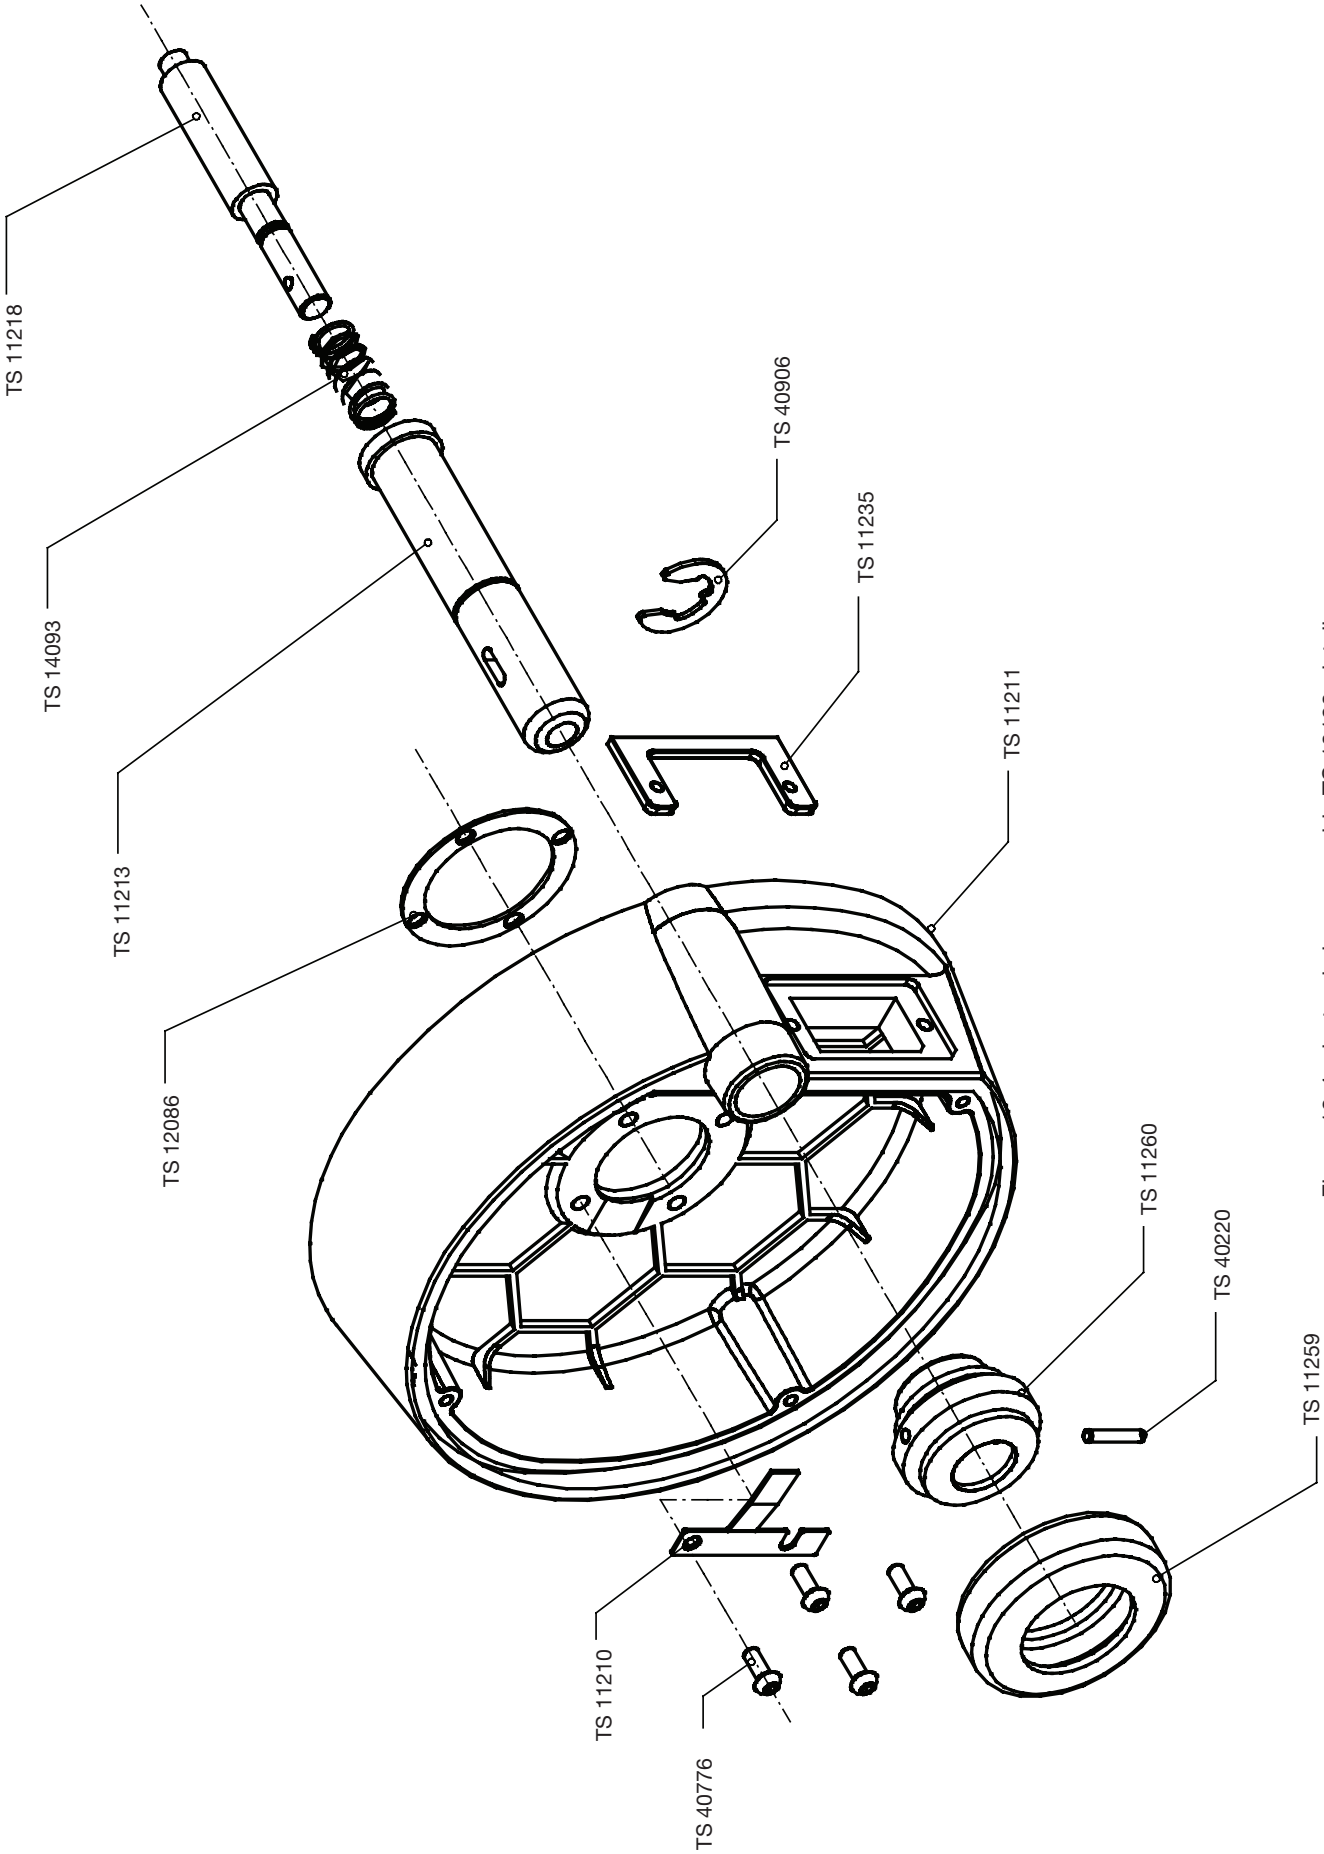

Figure 13-4: electronic box assembly TS 10190, details
- Figure 13-4: electronic box assembly TS 10190, details